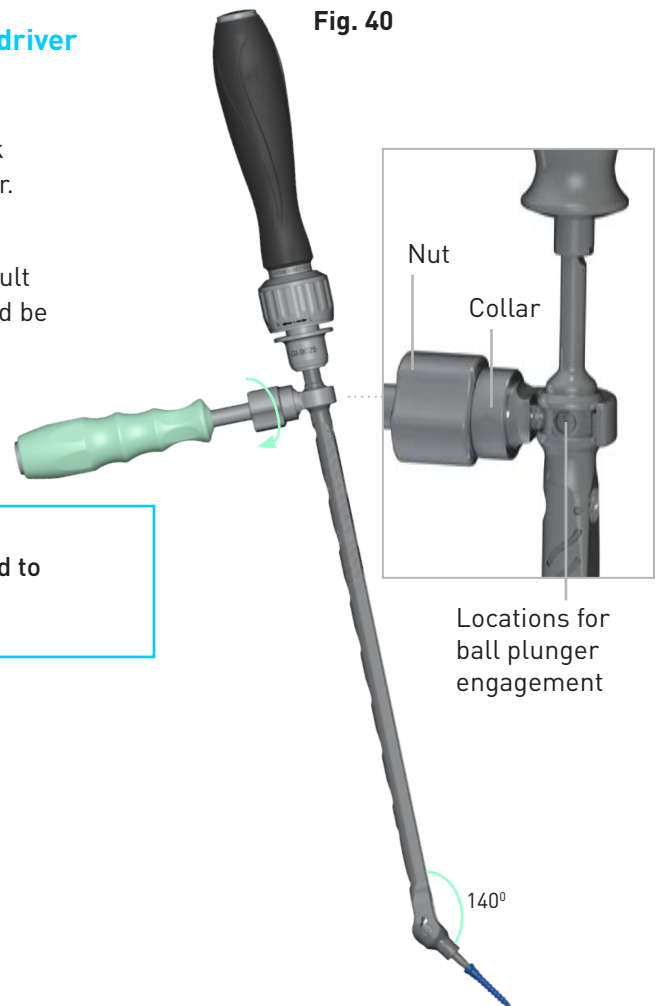

Fig. 40
- The Counter Torque handle can be attached to the Angled Screwdriver by first loosening the nut (Fig 40). Locate the hook around the neck of the screwdriver and engage the ball plunger. Retighten the nut to secure (Fig. 40).